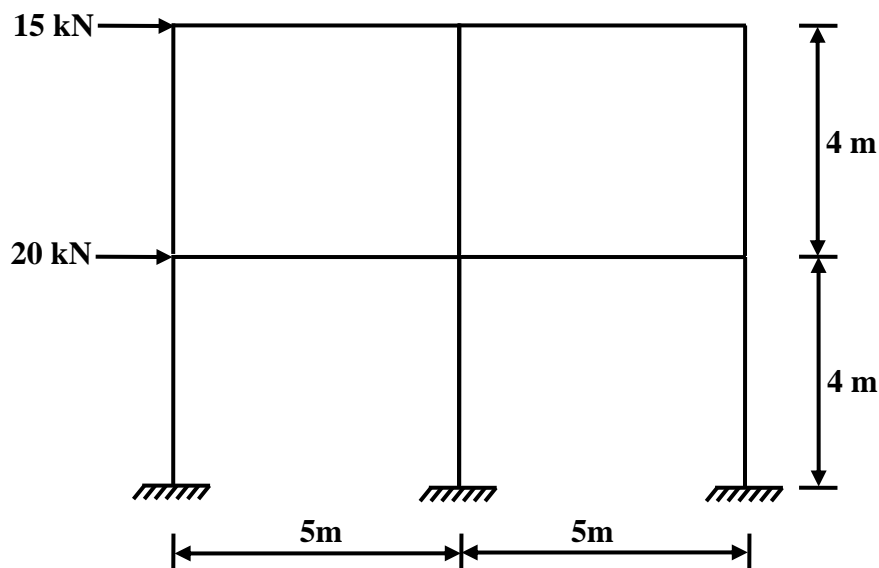

Fig. 2
2. Analyze the rigid jointed plane frames shown in fig.2 by approximate method. All the members have same axial rigidity and flexural rigidity.